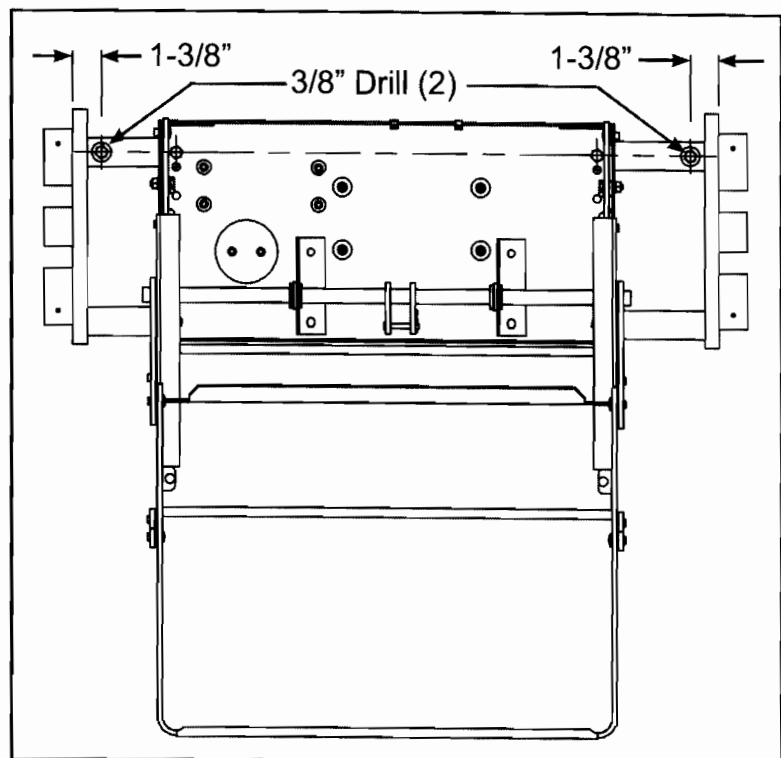

Figure 2
13. Measure and mark 1-3/8" from each end of the inboard entry step cradle channel. See Figure 2.